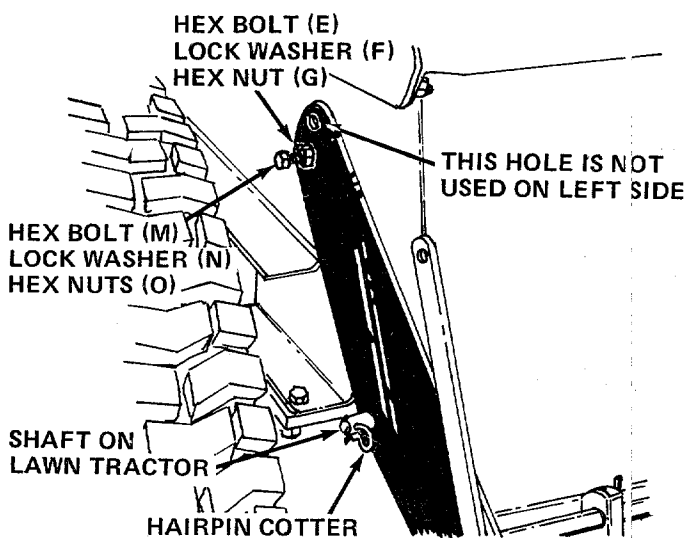

FIGURE 6
5. Thread one hex nut (O) all the way onto hex bolt (M) (1-1/2" long).
7. Secure the support pivot bracket to the tractor by placing hex bolt (M) (with nut assembled) in the smaller hole in plate which aligns with hole on tractor. Start hex nut (O) and lock washer (N) by hand. See figure 6.
8. Place one hex bolt (E) through top forward hole in bracket and tractor frame. Secure with lock washer (F) and hex nut (G).
9. Assemble the other support pivot bracket to the right hand side of tractor in the same manner, except use hex bolt (H) (1" long) instead of the longer hex bolt and the extra hex nut.
11. Secure end of idler bracket support arm assembly on the right side of tractor with one flat washer (D) and hairpin cotter (J).